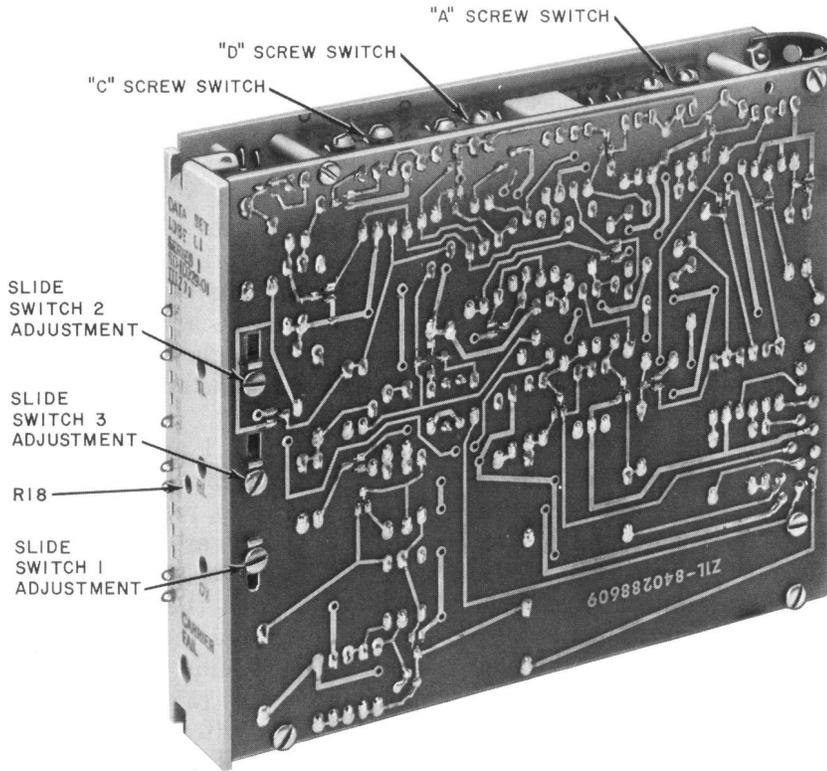

Fig. 2—Data Set 108E-Type (Series 1)
4.01 Three screw switches (A, C, and D) are provided to implement 2-wire or 4-wire service (see Table C). For 4-wire connection, option Z must be installed in the data set. The sending loop facility must be connected to the terminals mating with card terminals 16 and 15 (T and R). The receiving loop facility must be connected to the terminals mating with card terminals 17 and 18, (T1 and R1). The 4-wire option requires that all of the C screw switches be opened. For 2-wire connection, option Y must be installed in the data set. The loop facility must be connected to the terminals mating with card terminals 16 and 15 (T and R) and the proper hybrid network selection installed. Options Y and Z are under control of the A screw switch (Fig. 2).